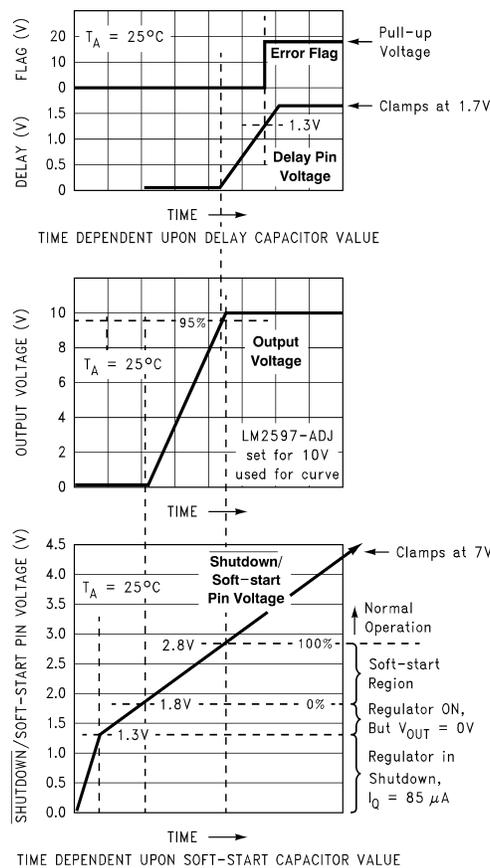
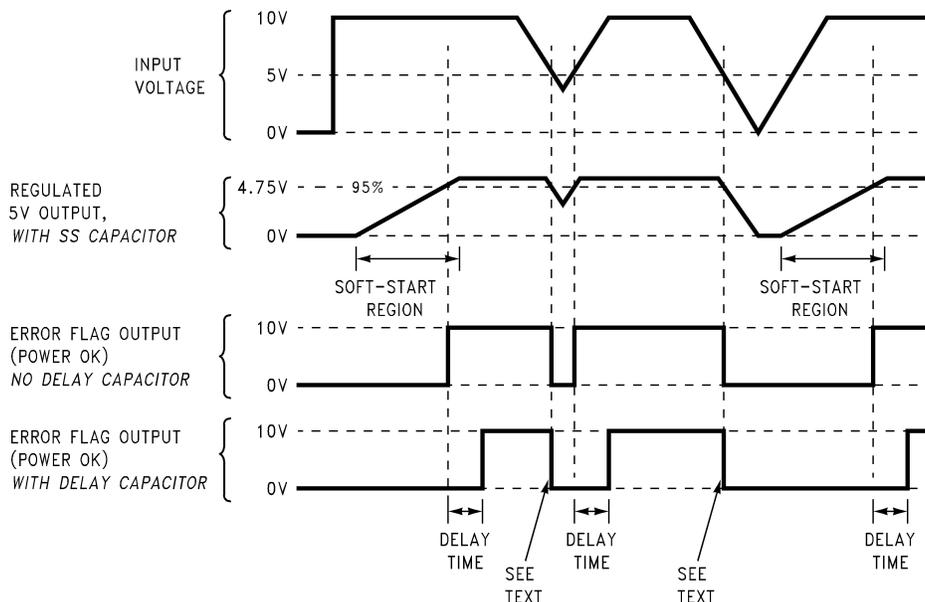

Figure 32. Soft-start, Delay, Error, Output
Figure 33. Timing Diagram for 5V Output
C_{SS} —A capacitor on this pin provides the regulator with a Soft-start feature (slow start-up). When the DC input voltage is first applied to the regulator, or when the Shutdown /Soft-start pin is allowed to go high, a constant current (approximately 5 μA begins charging this capacitor). As the capacitor voltage rises, the regulator goes through four operating regions (See the bottom curve in Figure 32).
- Soft-start Region.** When the \overline{SD} /SS pin voltage is between 1.8V and 2.8V (@ 25°C), the regulator is in a Soft-start condition. The switch (Pin 8) duty cycle initially starts out very low, with narrow pulses and gradually get wider as the capacitor \overline{SD} /SS pin ramps up towards 2.8V. As the duty cycle increases, the output voltage also increases at a controlled ramp up. See the center curve in Figure 32. The input supply current requirement also starts out at a low level for the narrow pulses and ramp up in a controlled manner. This is a very useful feature in some switcher topologies that require large startup currents (such as the inverting configuration) which can load down the input power supply.
The lower curve shown in Figure 32 shows the Soft-start region from 0% to 100%. This is not the duty cycle percentage, but the output voltage percentage. Also, the Soft-start voltage range has a negative temperature coefficient associated with it. See the Soft-start curve in Electrical Characteristics.
C_{DELAY} —Provides delay for the error flag output. See the upper curve in Figure 32, and also refer to timing diagrams in Figure 33. A capacitor on this pin provides a time delay between the time the regulated output voltage (when it is increasing in value) reaches 95% of the nominal output voltage, and the time the error flag output goes high. A 3 μ A constant current from the delay pin charges the delay capacitor resulting in a voltage ramp. When this voltage reaches a threshold of approximately 1.3V, the open collector error flag output (or power OK) goes high. This signal can be used to indicate that the regulated output has reached the correct voltage and has stabilized.